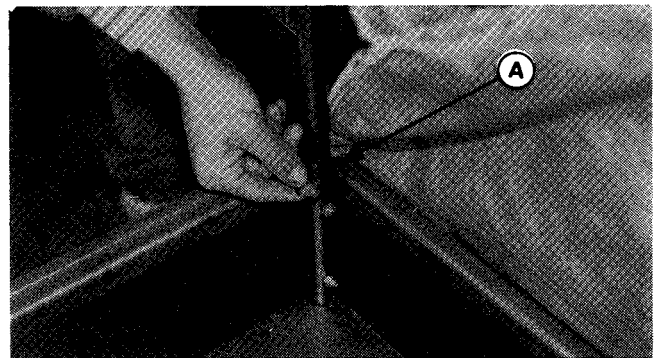

Figure 10.
- d. Place the cover assembly over the support tube. Insert the frame rod with the support rod attached through the hole in the support tube and secure with a safety clip (A, figure 10) on each side.